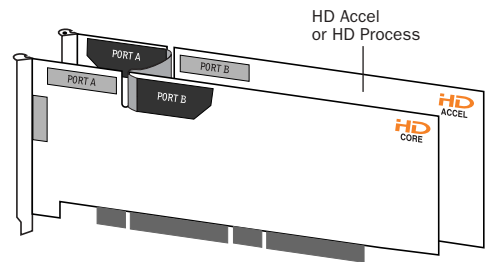

Figure 4. Side view of two HD cards connected with TDM FlexCable
**4** Verify the connection, as shown in Figure 4.